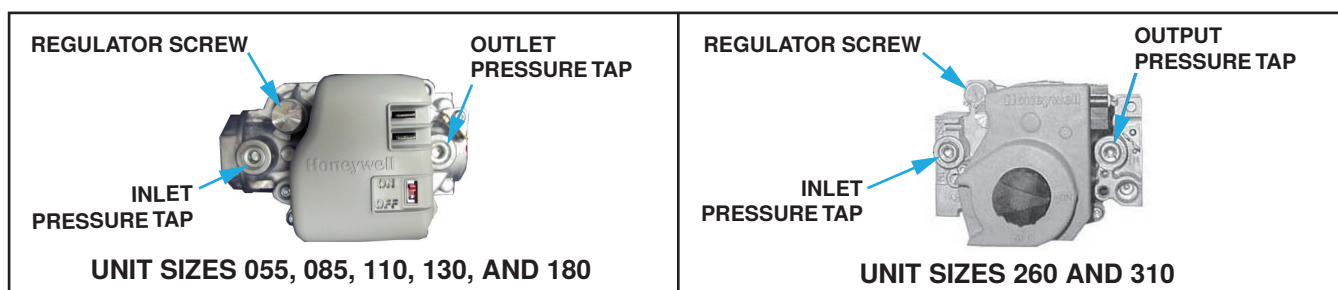

Figure 29. Combination Gas Valves
2. Connect manometer to inch output pressure tap on valve (see Figure 29).
5. If manometer reading does not indicate that valve outlet pressure is in accordance with Table 22, remove cap from regulator screw(s) (see Figure 29) and adjust pressure by turning regulator screw IN (clockwise) to increase pressure or OUT (counterclockwise) to decrease pressure.
4. Connect manometer to output pressure tap on valve (see Figure 29).
6. Remove cap from regulator screw (see Figure 29) and adjust pressure in accordance with Table 22 by turning regulator screw IN (clockwise) to increase pressure or OUT (counterclockwise) to decrease pressure.
10. Connect manometer to inlet pressure tap (see Figure 29). While heater is operating, measure inlet pressure, which should be between 5 and 13.5 IN WC for natural gas or between 10 and 13.5 IN WC for propane.